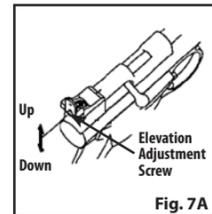

Fig. 7A
2. The rear sight may be adjusted to shoot higher or lower (elevation). Loosen the elevation adjustment screw by turning it counterclockwise. Move the sight up to make the pellet hit higher on the target. Move the sight down to make the pellet hit lower on the target. Then tighten the elevation adjustment screw by turning it clockwise (Fig. 7A).